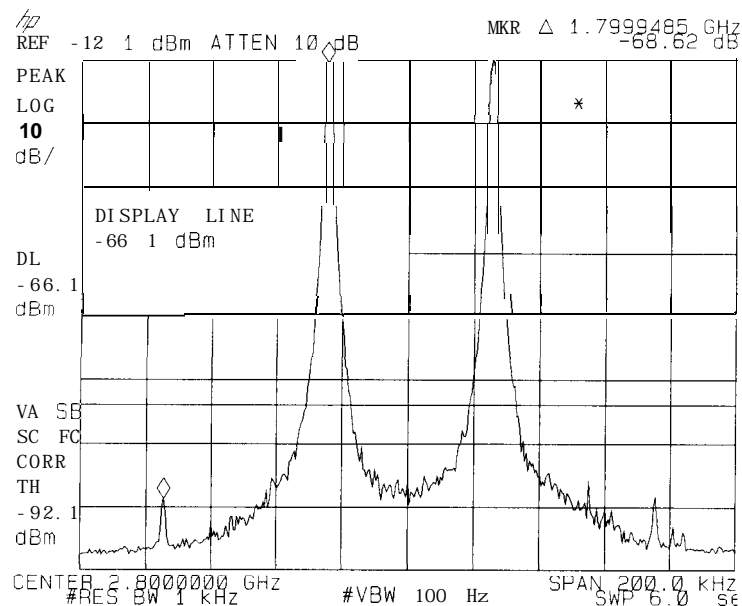

Figure 2-55. Third Order Intermodulation Distortion
44. The third-order intermodulation distortion products should appear 50 kHz below the lower frequency signal and 50 kHz above the higher frequency signal. Their amplitude should be less than the display line. See Figure 2-55.
The third-order intermodulation distortion products should appear 50 kHz below the lower frequency signal and 50 kHz above the higher frequency signal. Their amplitude should be less than the display line. See Figure 2-55.